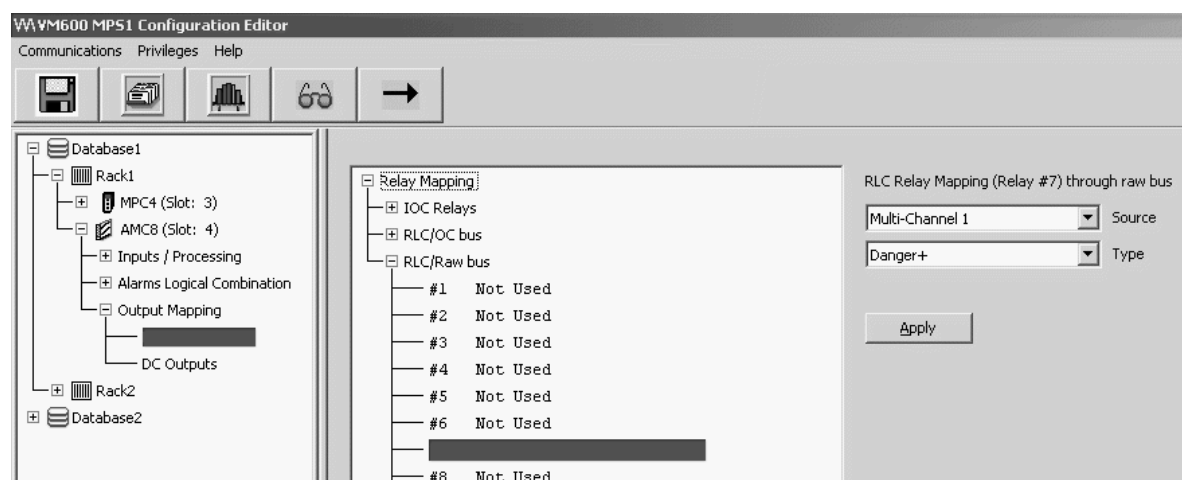

Figure 10-17: VM600 MPSx software window to configure the Raw Bus
- 6- Using the VM600 MPSx software, select the **Discrete Outputs** node (a child of the **Output Mapping** node) in the tree structure (left). Then expand the **RLC/Raw bus** node in the main window (right) and select the relay in question (between 1 and 16). See Figure 10-17.
The user must then use the VM600 MPSx software to select Relay 7 from the 16 relays available in the **RLC/Raw bus** node. Then, the Danger+ alarm for Multi-Channel 1 can be assigned to this relay (see Figure 10-17).